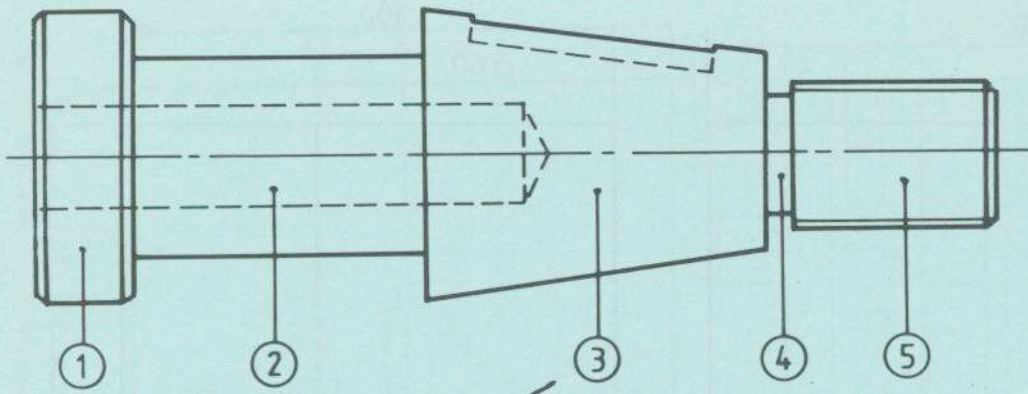

FIG. 4. FÍOR 4.
4. (a) Using data table shown below, make a fully dimensioned drawing of the shaft shown at Figure 4.